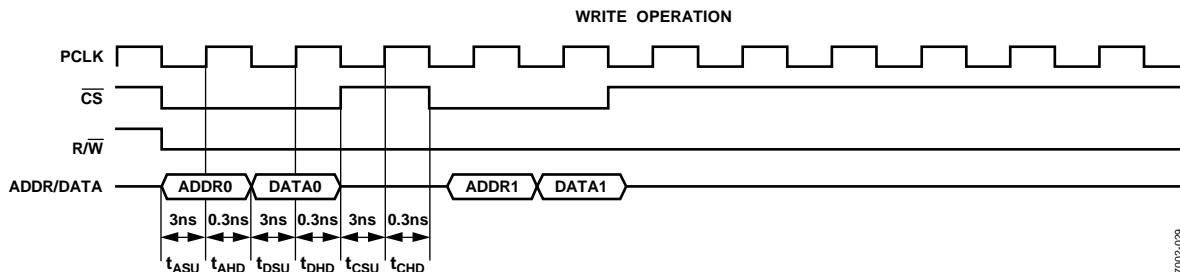

Figure 34. Parallel Port Write Timing
Write operations work in a similar fashion as read operations except that the user drives the bus for both PCLK cycles. A typical write access follows the steps shown in Figure 34.
5. The IO_UPDATE is not shown in Figure 34. The IO_UPDATE transfers the contents from a write sequence to the active register. See the Register Update (I/O Update) section.